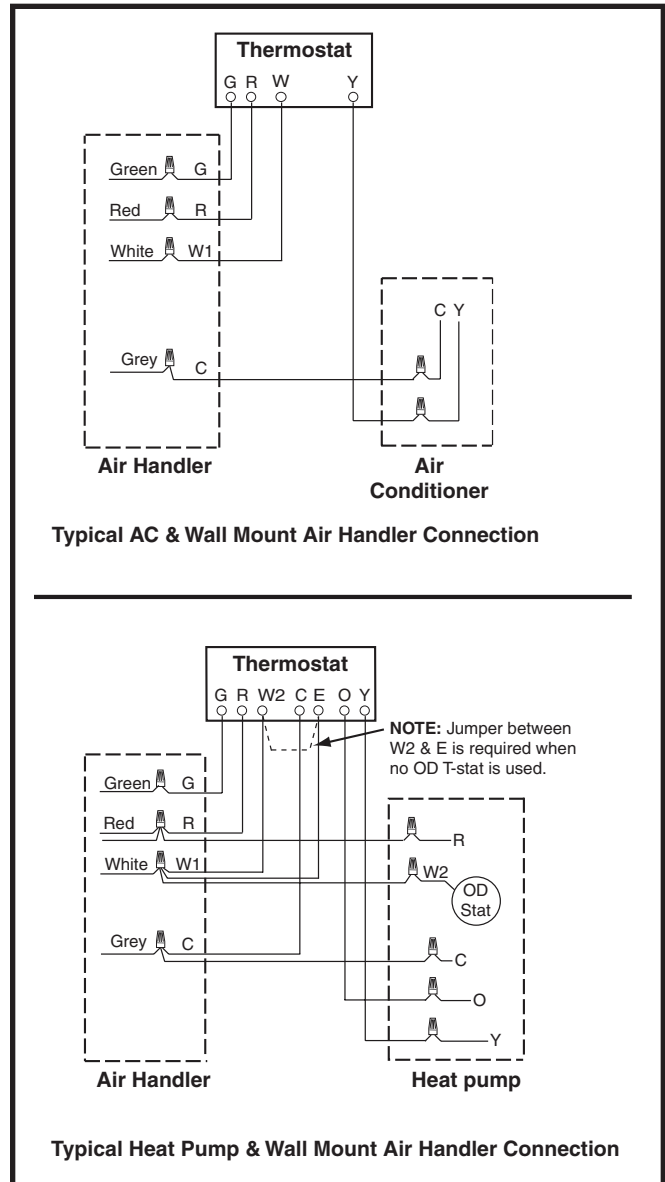

Figure 3. Typical Thermostat Connections
- A single stage thermostat is used with this equipment and must operate in conjunction with any installed accessories. Typical AC and air handler hookups are shown in Figure 3.